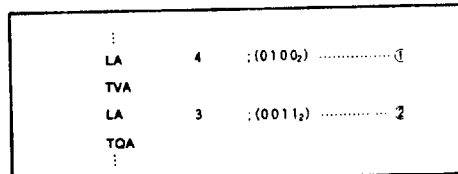

Fig.11 Example program-1
1. Set the bit 0 of the register V to "0" (①) and the bit 1 of the register Q to "1" (②) before the input polarity of the INT pin is changed (see Figure 11).